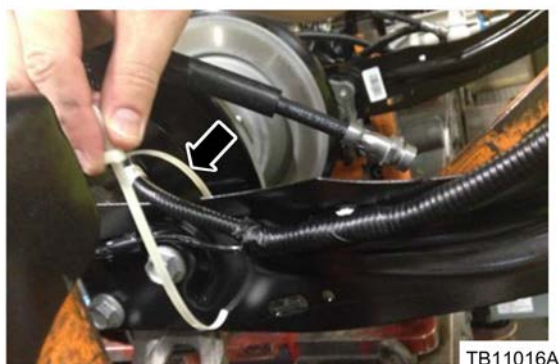

Figure 1 - Article 17-0005
5. Tie strap both harnesses to gain sufficient clearance away from both rear wheels. (Figure 1)